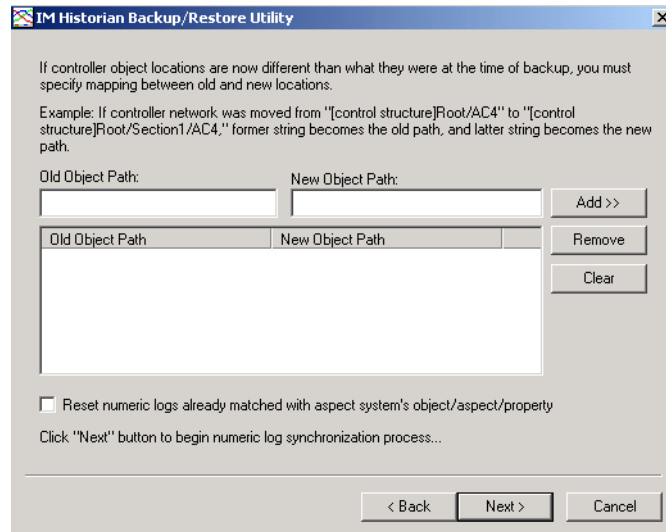

Figure 309. Location mapping Dialog
2. Click **Next** to continue. This displays a dialog for mapping controller object locations, Figure 309. It is NOT necessary to make any entries in this dialog unless the locations have changed since the backup was made.